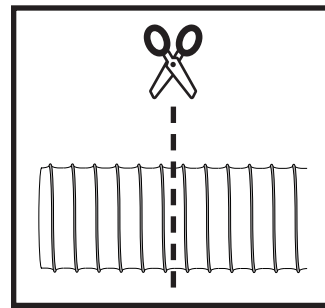

FIG. 18a
If you purchased the Dual Drum setup, secure the 10x10x10 Pants Wye (Z) to the Cone's (C) discharge with the Self-tapping Screws (Z1) and seal it airtight with the Foil Tape (Z2). Cut the 10" Flex Hose (J) in half using a razor knife and diagonal cutters to cut through the clear lining and reinforcing wire [FIG. 18a].